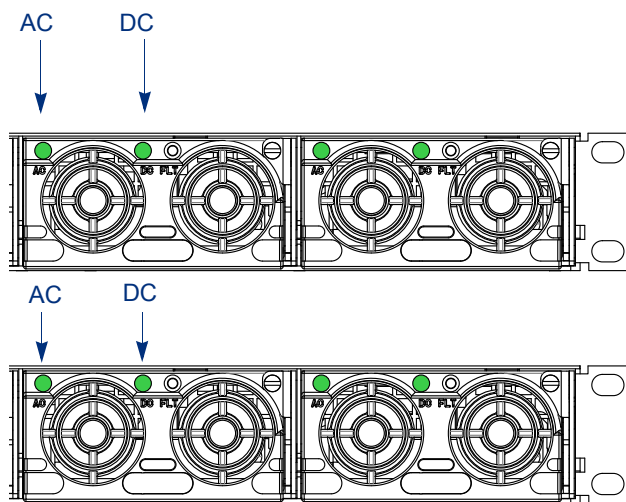

Figure 22. AC power supply chassis, front view, full redundancy
21. Verify the **OK** LEDs on PEM-A and PEM-B of the VMG-6 are green as shown in Figure 22.